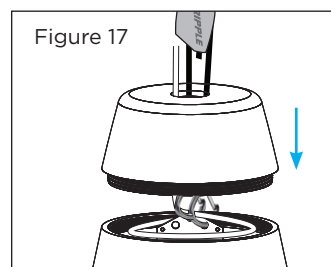

Figure 17
16. Lay the extra wire slack in a coiled circle on the top of the speaker enclosure and secure the top cover over the coil (see Figure 17).